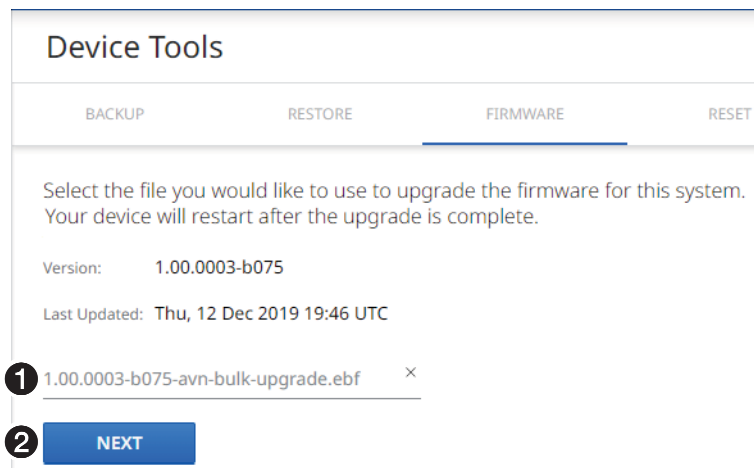

Figure 90. Device Pane with Firmware File Identified
- Click **Open** (②). The **Open** dialog box closes and the **Device Tools** page returns to the top, with the selected firmware file first shown as uploading and then identified (see figure 90, ①).